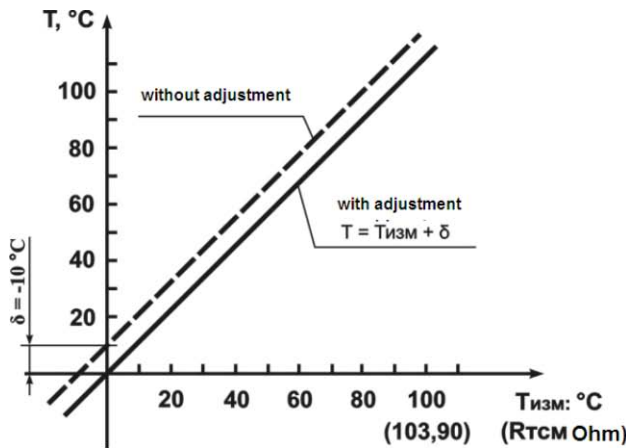

Figure 3.3
3.2.3.1 To provide for the error compensation $\Delta R = (R_0 - R_{0.TC})$ produced by the input wiring resistance R_{TC} , each **measured temperature value** ($T_{изм}$) is added with a user specified value δ . Figure 3.3 shows an example of a characteristics shift for Pt100 sensor.